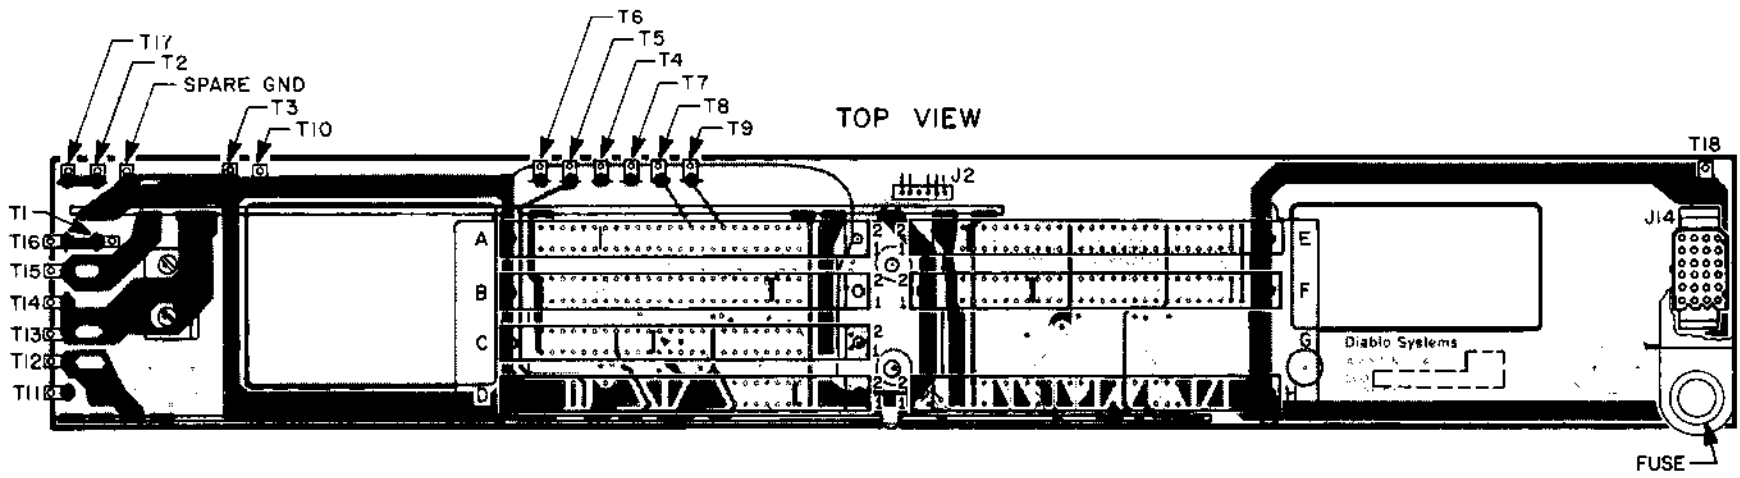

Figure 3-19. Mother Board Connections
- (1) Refer to Figure 3-19. Connect all wire and cable connections to the mother board and replace the necessary tie wraps.
- (2) Set the mother board in place and check that all wires and cables clear the mother board and frame, and are arranged properly to reach their respective connections.
- (3) Using a TORX T15 screwdriver, install the six bottom center mother board mounting screws, then the three left-side frame and the two right-side frame mounting bracket screws (a cable clamp is installed on one of the left-side frame mounting bracket screws). Tighten down all the mounting screws.
- (4) Using a TORX T15 screwdriver, install the two rear printer shock mounts.
- (5) Connect the Molex connector at the left-side frame to its mate on the mother board.
- (6) Place the printer back down on its feet and install and connect all the circuit boards and their wire and cable connections.
- (7) Reinstall the printer into the bottom cover (see 3.3.5).
- (8) Replace the top cover and accessories (see 3.1.2).
- (9) Apply power and test the HyTerm.